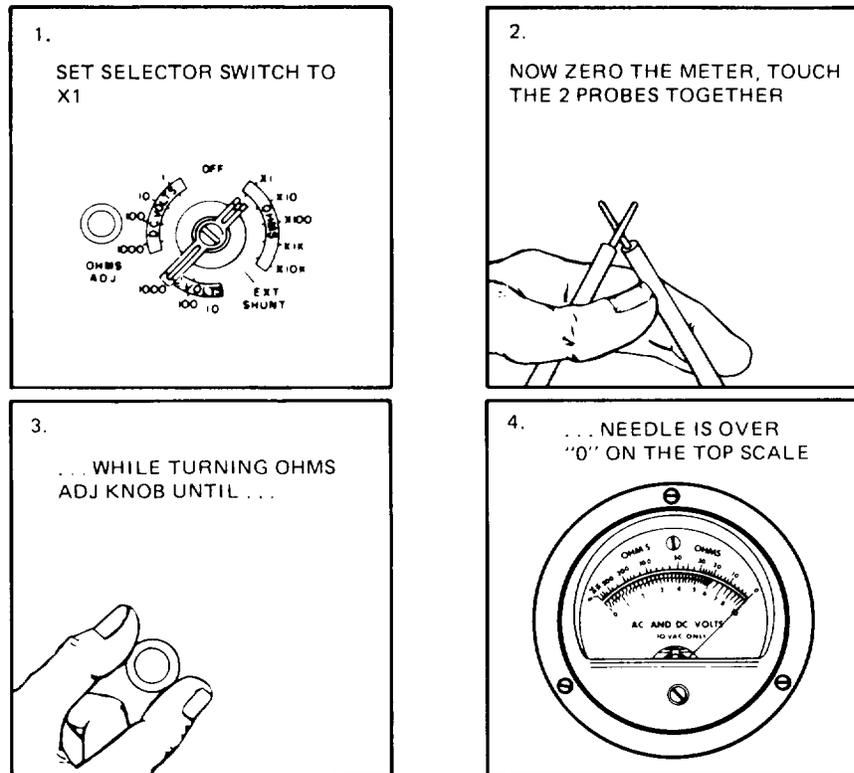
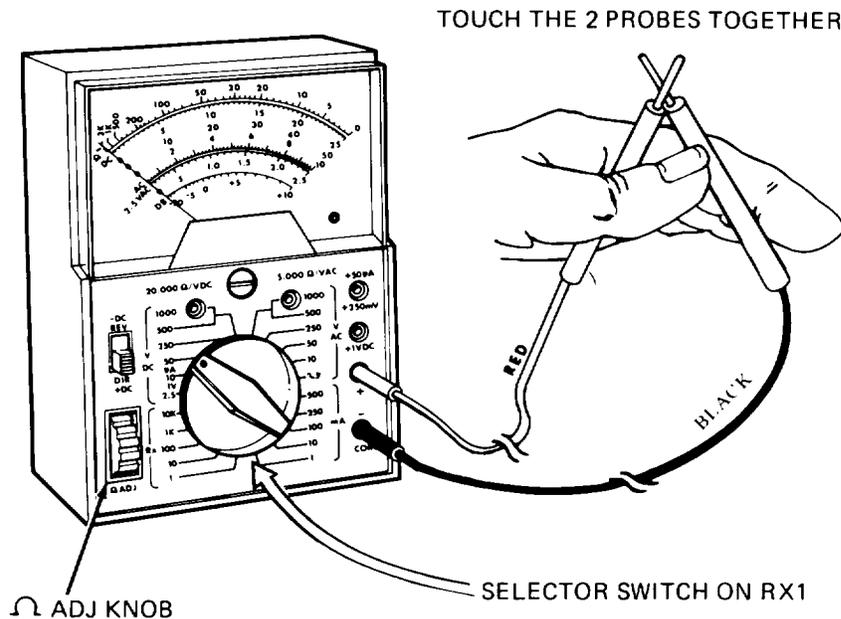

Figure 5-2. Using the Ohms Scale and “Zeroing” Multimeter AN/URM-105
Figure 5-4. Using Ohms Scale and "Zeroing" Multimeter Simpson 160
b. *Using the Ohms Scale.* The Ohms Scale (fig. 5-2 thru fig. 5-4) is used to make tests for continuity, shorts, and resistance. The multi meter must be set up and “zeroed” before making these tests. Do the following steps that match the multi meter you have: